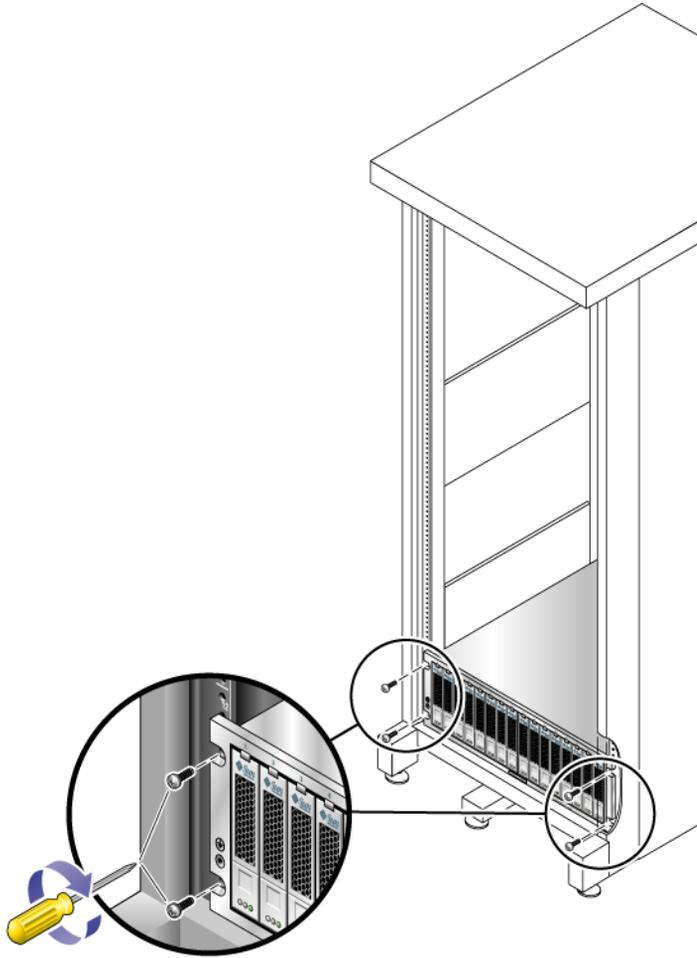

FIGURE 2-10 Securing the Unit to the Front of a Cabinet
3. Use the No. 3 Phillips screwdriver to install and tighten four M6 screws (two per side) to secure the tray to the front of the cabinet (FIGURE 2-10).